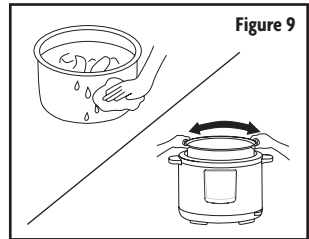

Figure 9
4. Remove any foreign objects from the multicooker and wipe the inner pot and inside of the multicooker with a dry cloth. Place the inner pot inside the multicooker and rotate slightly to ensure it has good contact with the heating element. (Refer to Figure 9.)